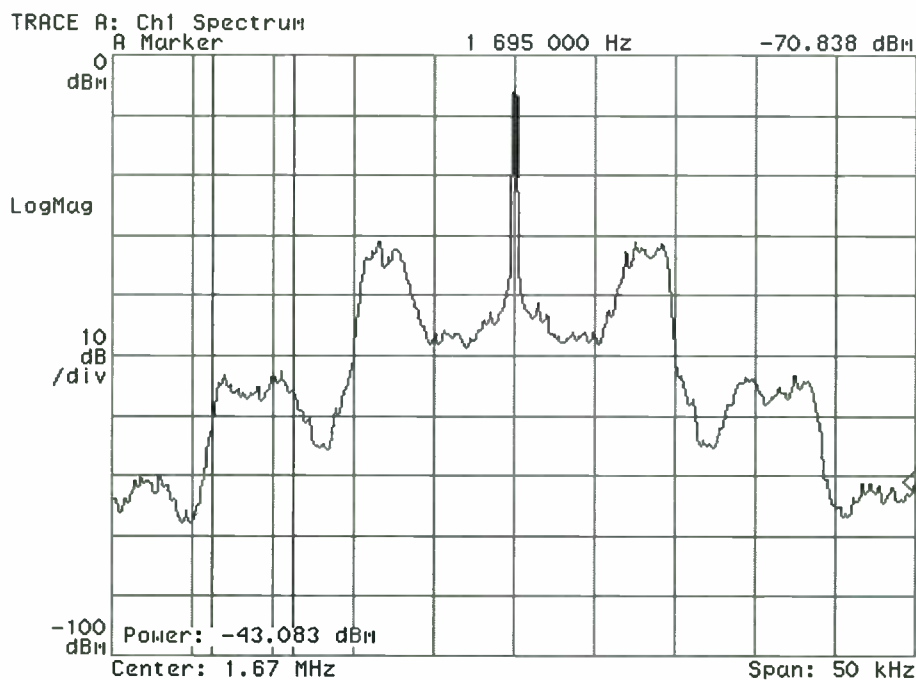

Figure 2-7 AM re-growth before adjustment
- a. On a Spectrum Analyzer, monitor the "spectral regrowth" area. This is the segment of the spectrum that is double the frequency of the digital carriers, located 20 - 30 kHz above and below the analog carrier. See figure 2-7.